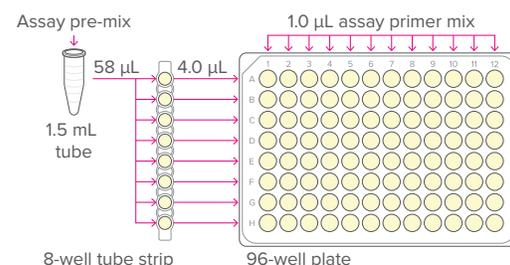

Figure 1. Preparation of sample mixes
- Pipet 58 μL of the assay pre-mix into each well of a new 8-well strip (see Figure 1).